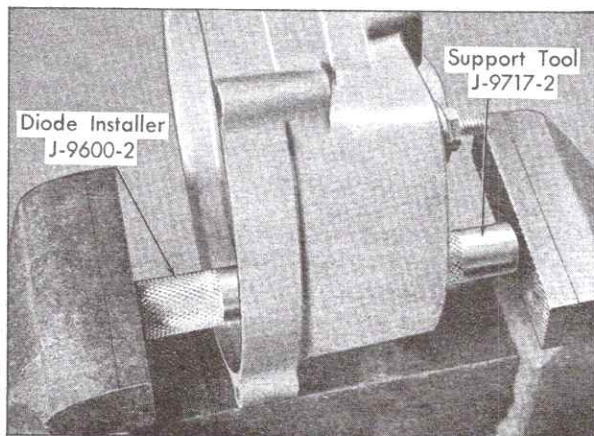

Fig. 6-40 Diode Installation
5. Support outside of end frame or heat sink around diode hole with Diode Support, J-9717-2, and press new diode into position with Diode Installer, J-9600-2, and a vise, Fig. 6-40.